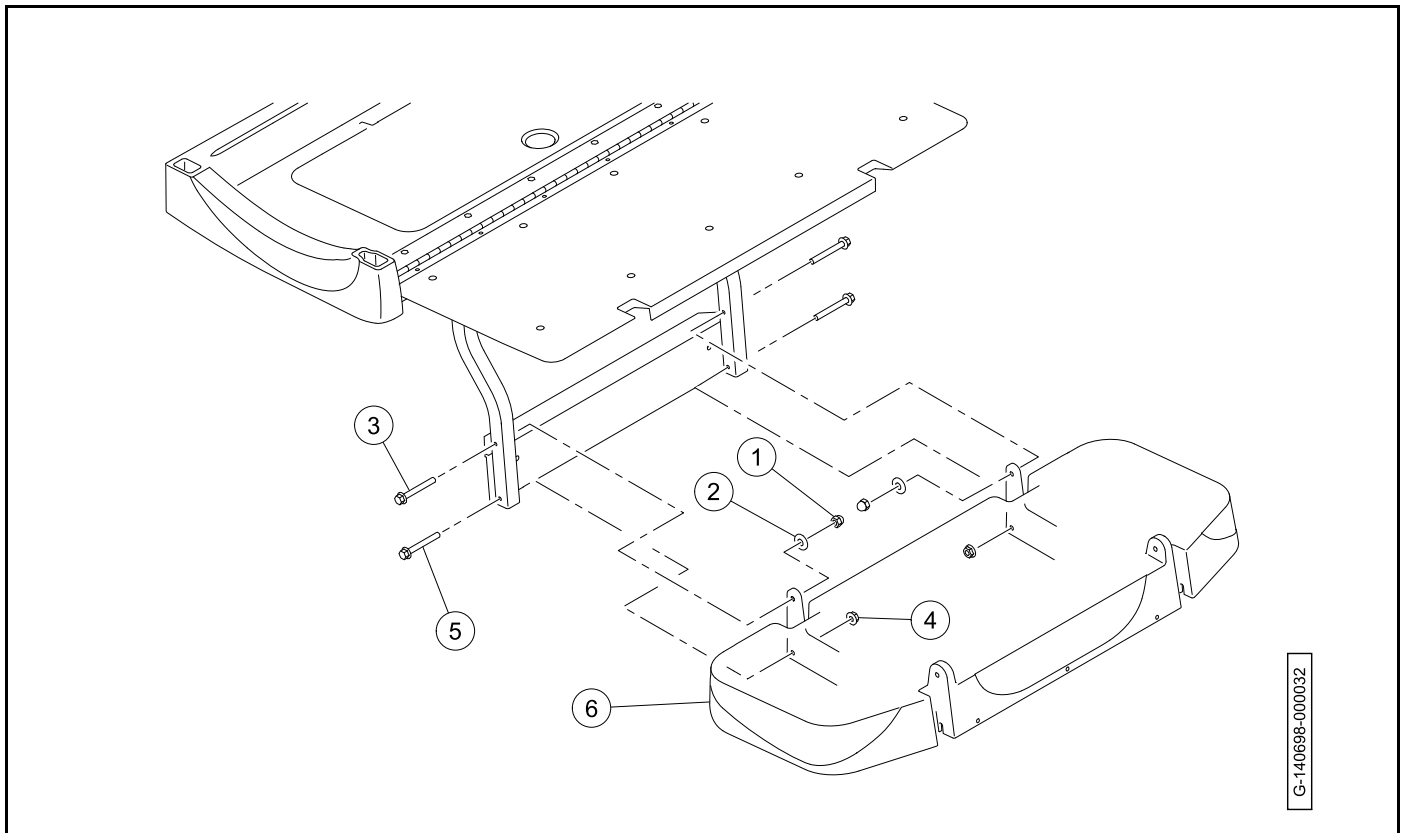

Figure 4-67 Foot Deck
1. Remove the cap nuts (1), washers (2), and bolts (3) (Figure 4-67, Page 4-69).
2. Remove the nuts (4) and bolts (5).
3. Remove the foot deck (6).
1. Install the foot deck (6) (Figure 4-67, Page 4-69).
2. Install the bolts (3), washers (2), and cap nuts (1). Tighten the cap nuts to 74 to 82 lb·in (8.4 to 9.3 N·m).
3. Install the bolts (5) and nuts (4). Tighten the nuts to 74 to 82 lb·in (8.4 to 9.3 N·m).